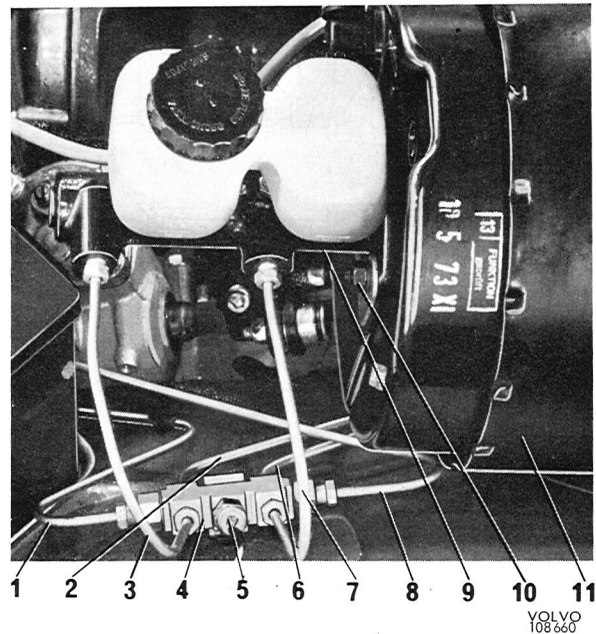

Fig. 5-51. The master cylinder installed
2. Connect the pipes, see Fig. 5-51.
Fig. 5-51 shows the different connections. Bleed the brake system.